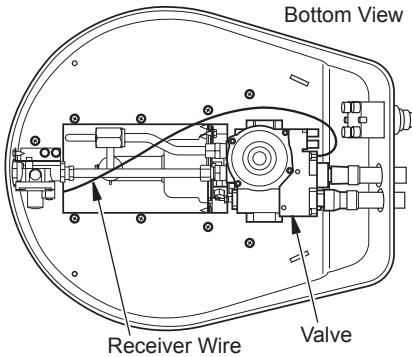

Figure 7 - Connecting Receiver Wire
4. Lay heater onto its side. Insert wire connector into valve at location shown in Figure 7 page 9. Feed extra wire from receiver into heater base. Place heater back in upright position.